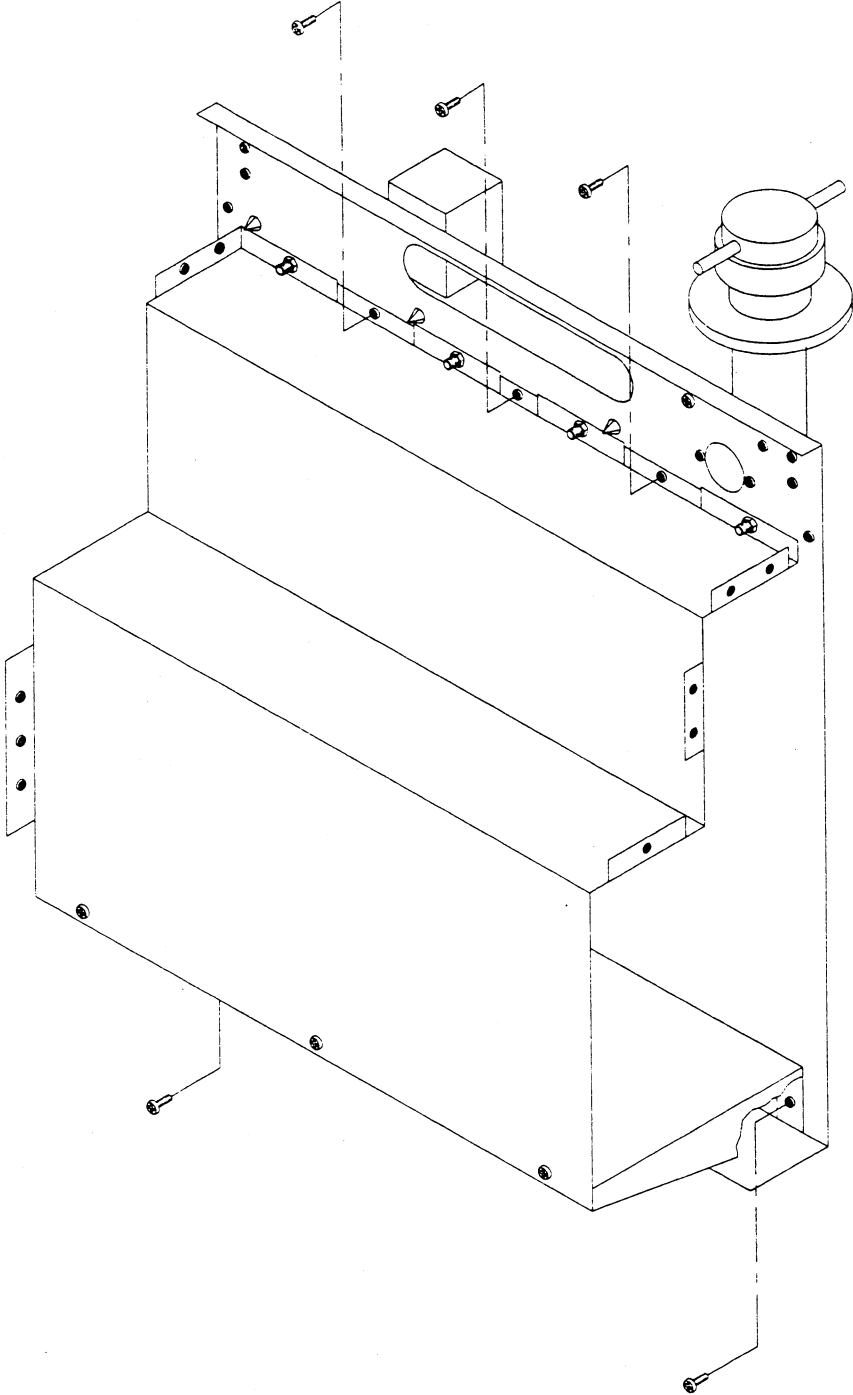

Figure 5-4. Mounting Screws for Vacuum System.
- 15 Separate the vacuum system frame from the circuit card chassis by removing five screws. See Figure 5-4.